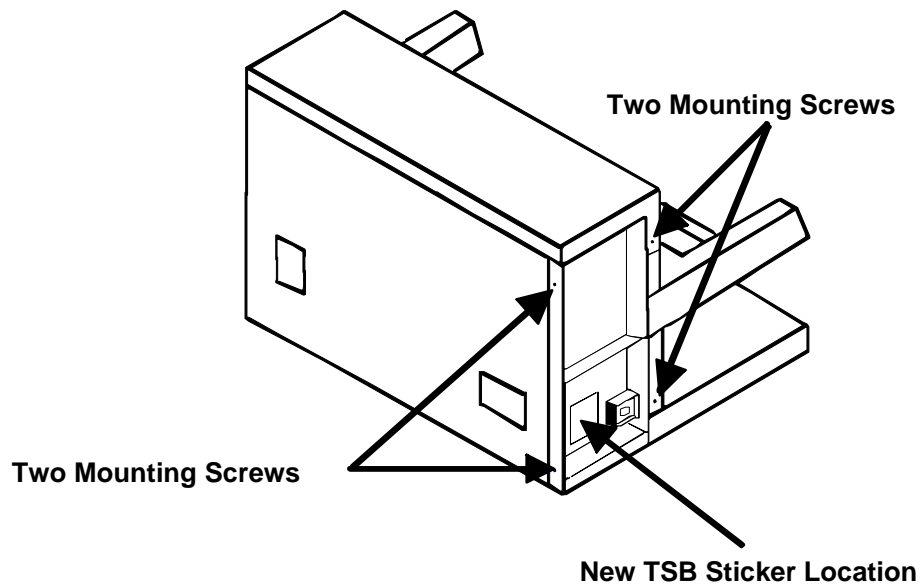

Figure 1: TSB Sticker Location
3. Remove the Left Side Cover of the FPC, (see **Figure 1**) by removing the four mounting screws.
5. Place the TSB Sticker on the inside of the Left Side Frame (see **Figure 1**), approximately one inch from the bottom and one inch from the Power Switch Bracket.